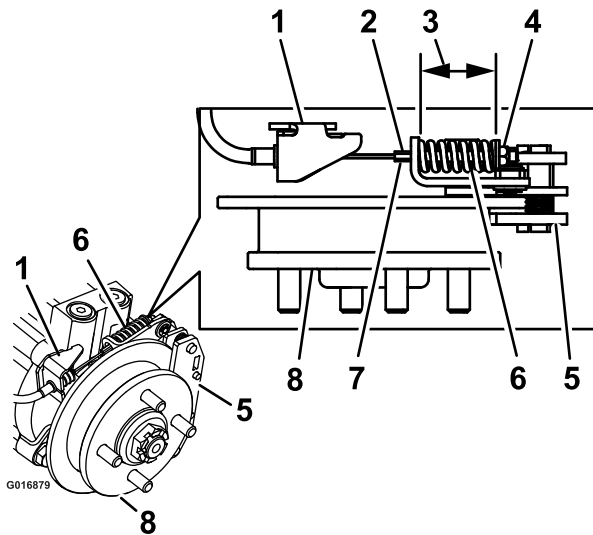

Figure 30
9. Hold the threaded rod end with a tool and adjust the lock nut until the spring length is between 1 1/2–1 9/16 inches (3.8–4.0 cm) see Figure 30). Do Not allow the cable to turn when the nuts are being loosened.